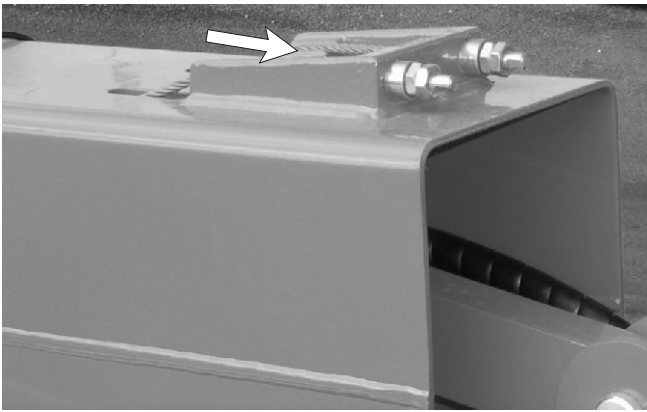

Figure 6.19—Wire Ropes
There is a wire rope connection (refer to Figure 6.19) on the top and bottom of the main boom. Visually inspect both connections.
Place the battery disconnect switch in the on position (see Figure 6.19) and pull the emergency stop button **1** out to turn on the electrical power. Operate the emergency power switch **2** to operate the aerial platform from the upper controls using the emergency power system.
Place the battery disconnect switch in the on position (see Figure 6.19) and pull the emergency stop button^① out to turn on the electrical power. Operate the emergency power switch^② to operate the aerial platform from the upper controls using the emergency power system.